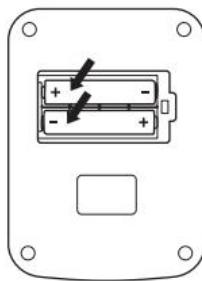

Figure 1.1
- If using batteries, install two AA batteries. When inserting the batteries, pay attention to the positive (+) and negative (-) terminals and install them correctly as shown in Figure 1.1.